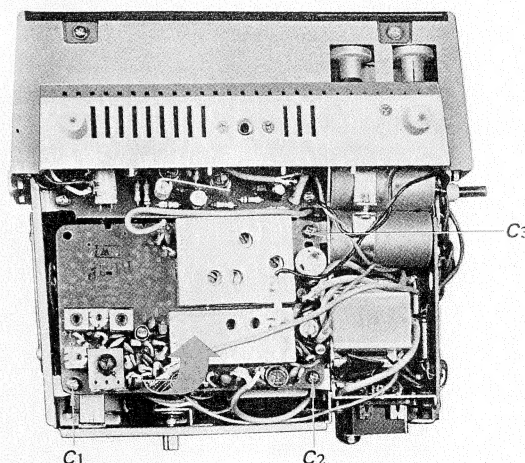

Fig. 2-4
1. Remove the three screws labeled C1–C3 in Fig. 2-4.
2. Take off the BC board as shown in Fig. 2-4.